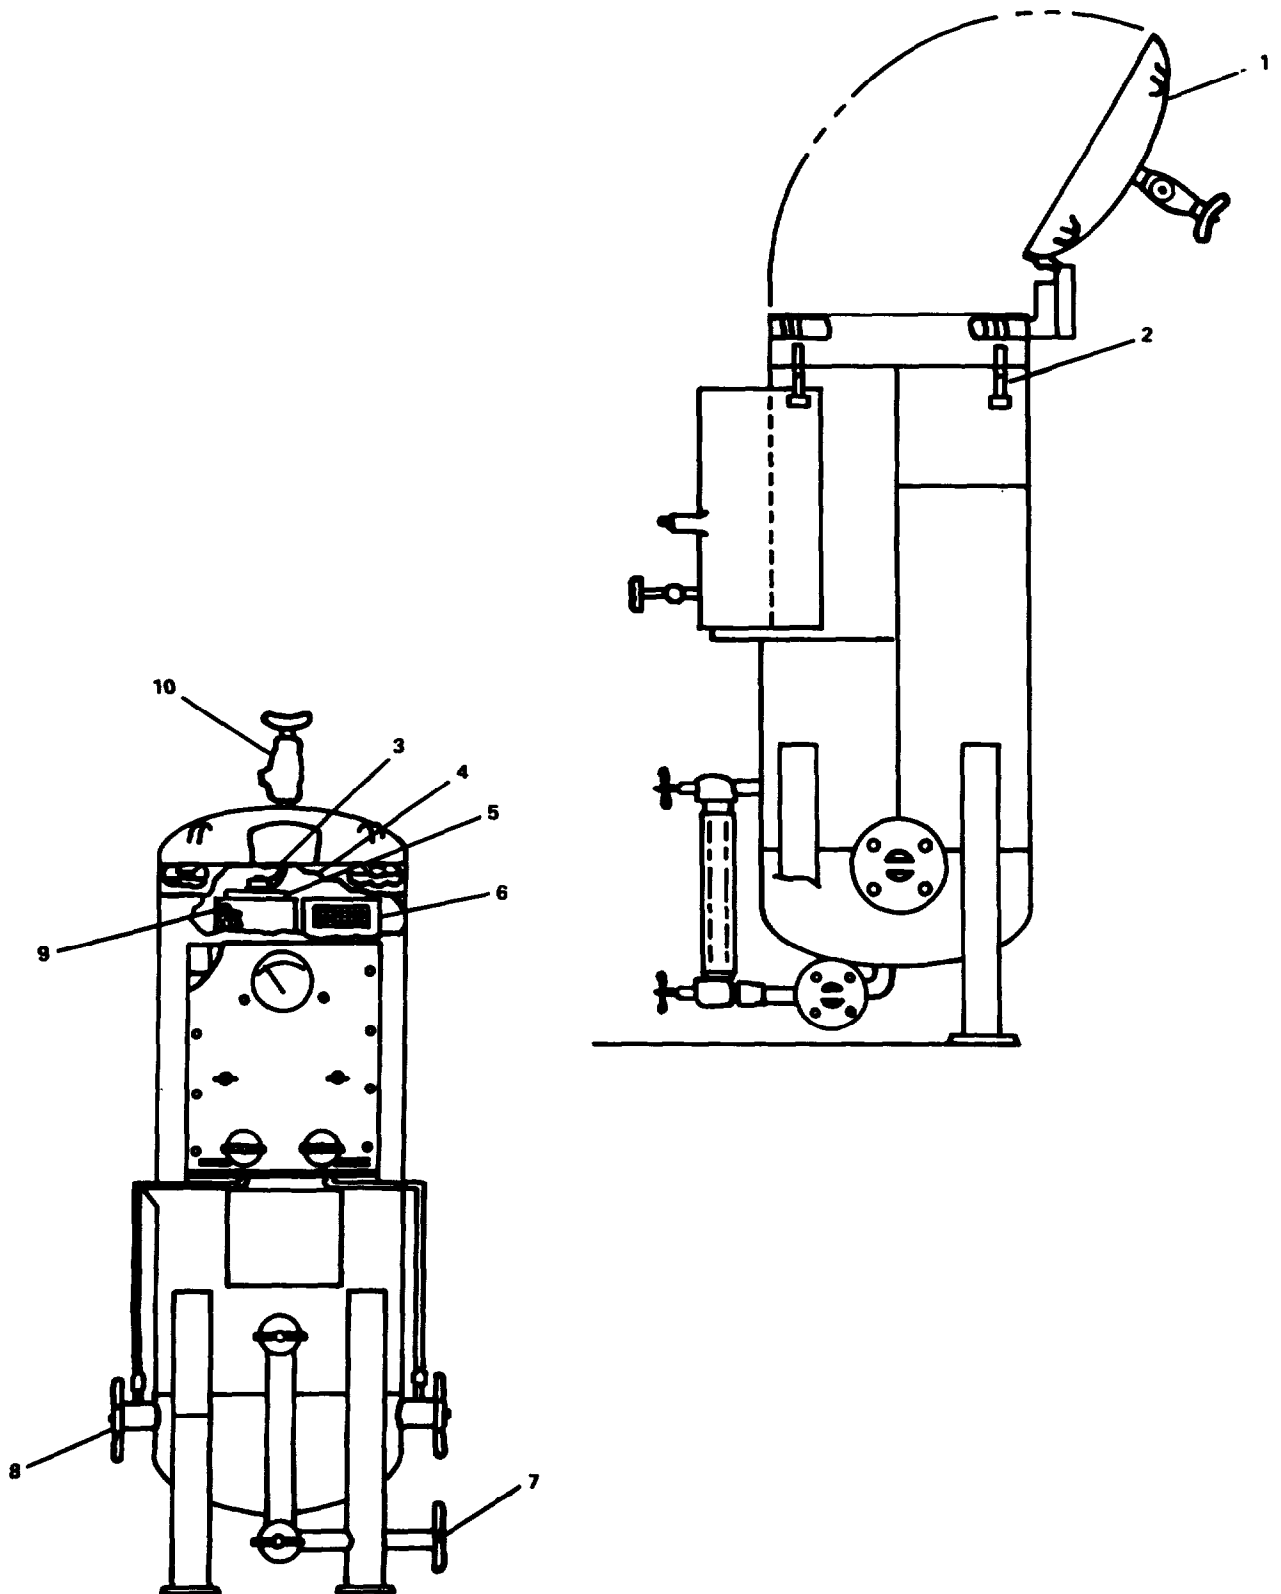
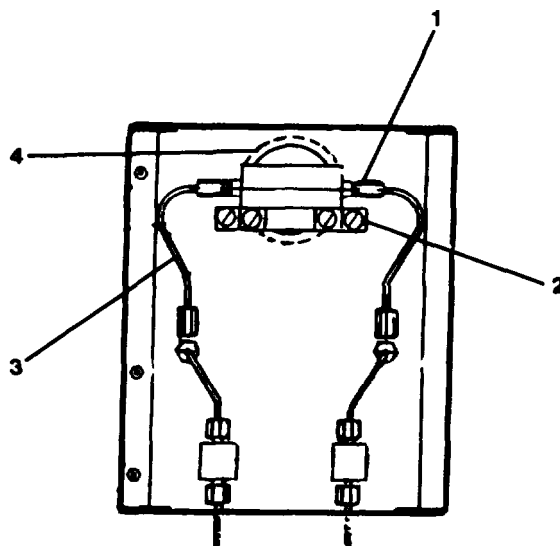

Figure 2-12. Diesel Fuel Oil Filter/Separator.
FIGURE 2-13. Diesel Fuel Oil Filter/Separator. Assembly.
- a. Close inlet valve diesel fuel oil (8, FIGURE 2-12) to filter/separator.
- b. Slowly open vent valve (10) on top of unit to relieve pressure in housing.
- c. Open drain valve (7) and completely drain unit.
- d. Loosen four hex nuts and remove swing bolts (2) from machining end cap (1).
- e. Lift machining end cap (1) by handle and swing back into a rest position,
- f. Remove hexagon self-locking nuts (3), flatwashers (4) and stud seals (5) from each of two fluid filter elements (6) and (9).
- g. Remove fluid filter elements (6) and (9).
- h. Loosen the two tube coupling nuts (1, FIGURE 2-13).
- i. Gently press the tubing (3) against the differential pressure gauge (4) and pull up on the tube coupling nuts (1) to break the seal between the nut and tube.
- a. Install the differential pressure gauge (4, FIGURE 2-13) by replacing the hexagon cap screws and self-locking nuts (2).
- b. Install the tubes to the differential pressure gauge (4) by tightening the tube coupling nuts (1).
- c. Install fluid filter elements (6 and 9, FIGURE 2-12).
- d. Install stud seals (5), flatwashers (4) and hexagon self-locking nuts (3).
- e. Close the machining end cap (1) and secure with swing bolts (2). Torque hexagon nuts to 35 ft-lbs.
- f. Close drain valve (7).
- g. Make sure vent valve (10) is open. Open inlet valve (8) and when all air has escaped from filter housing, shut vent valve (10).